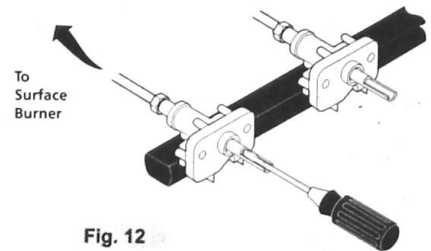

Fig. 12
- Insert a thin-bladed screwdriver into the hollow valve stem and engage the slotted screw inside. Flame size can be increased or decreased with the turn of the screw. Turn counterclockwise to increase flame size. Turn clockwise to decrease flame size. (See Figs. 12).